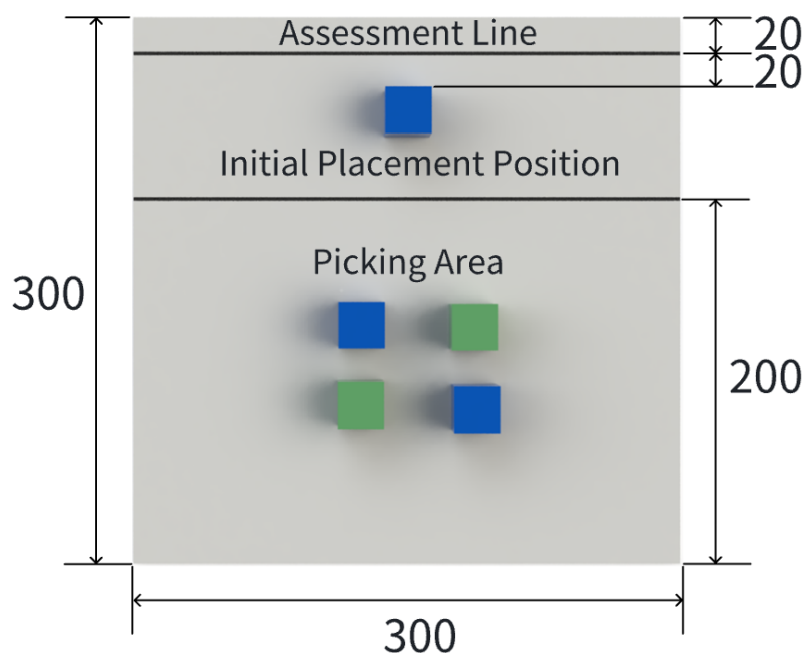

Figure 2. Top view of the workbench (dimensions are in millimeters).
**Workbench:** Each team in the competition will be provided with a workbench (Figure 2). The workbench has a white surface and is marked with the assessment line, the initial placement position, and the picking area. Its dimensions are 30 cm × 30 cm × 0.2 cm.